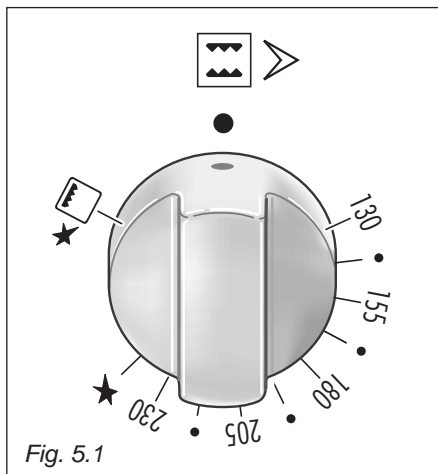
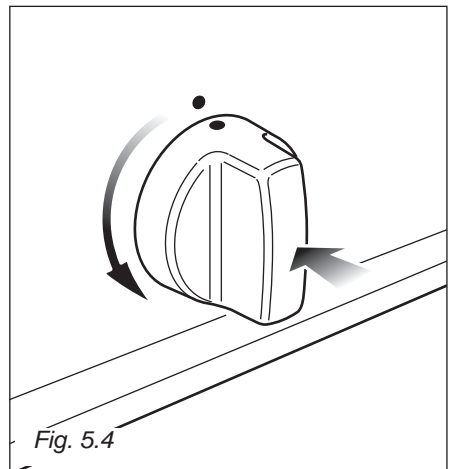
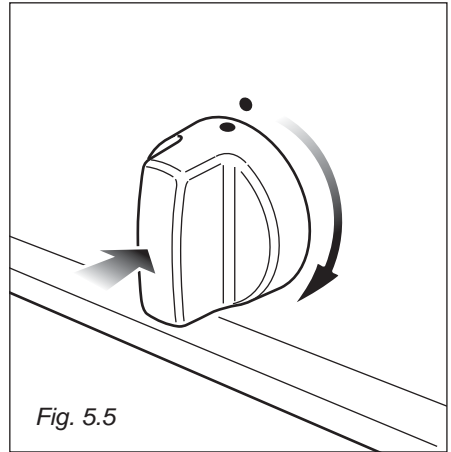

Fig. 5.1
Fig. 5.4
Fig. 5.5
The temperature knob is numbered from 130 to 230 ★ (fig. 5.1) indicating the increasing oven temperature value (see table 5.2).
- 2) Lightly press and turn the temperature knob anti-clockwise (fig. 5.4) to the max position (230 ★ fig. 5.1).
- 2) Lightly press and turn the temperature knob clockwise (fig. 5.5) to the  position (fig. 5.1).